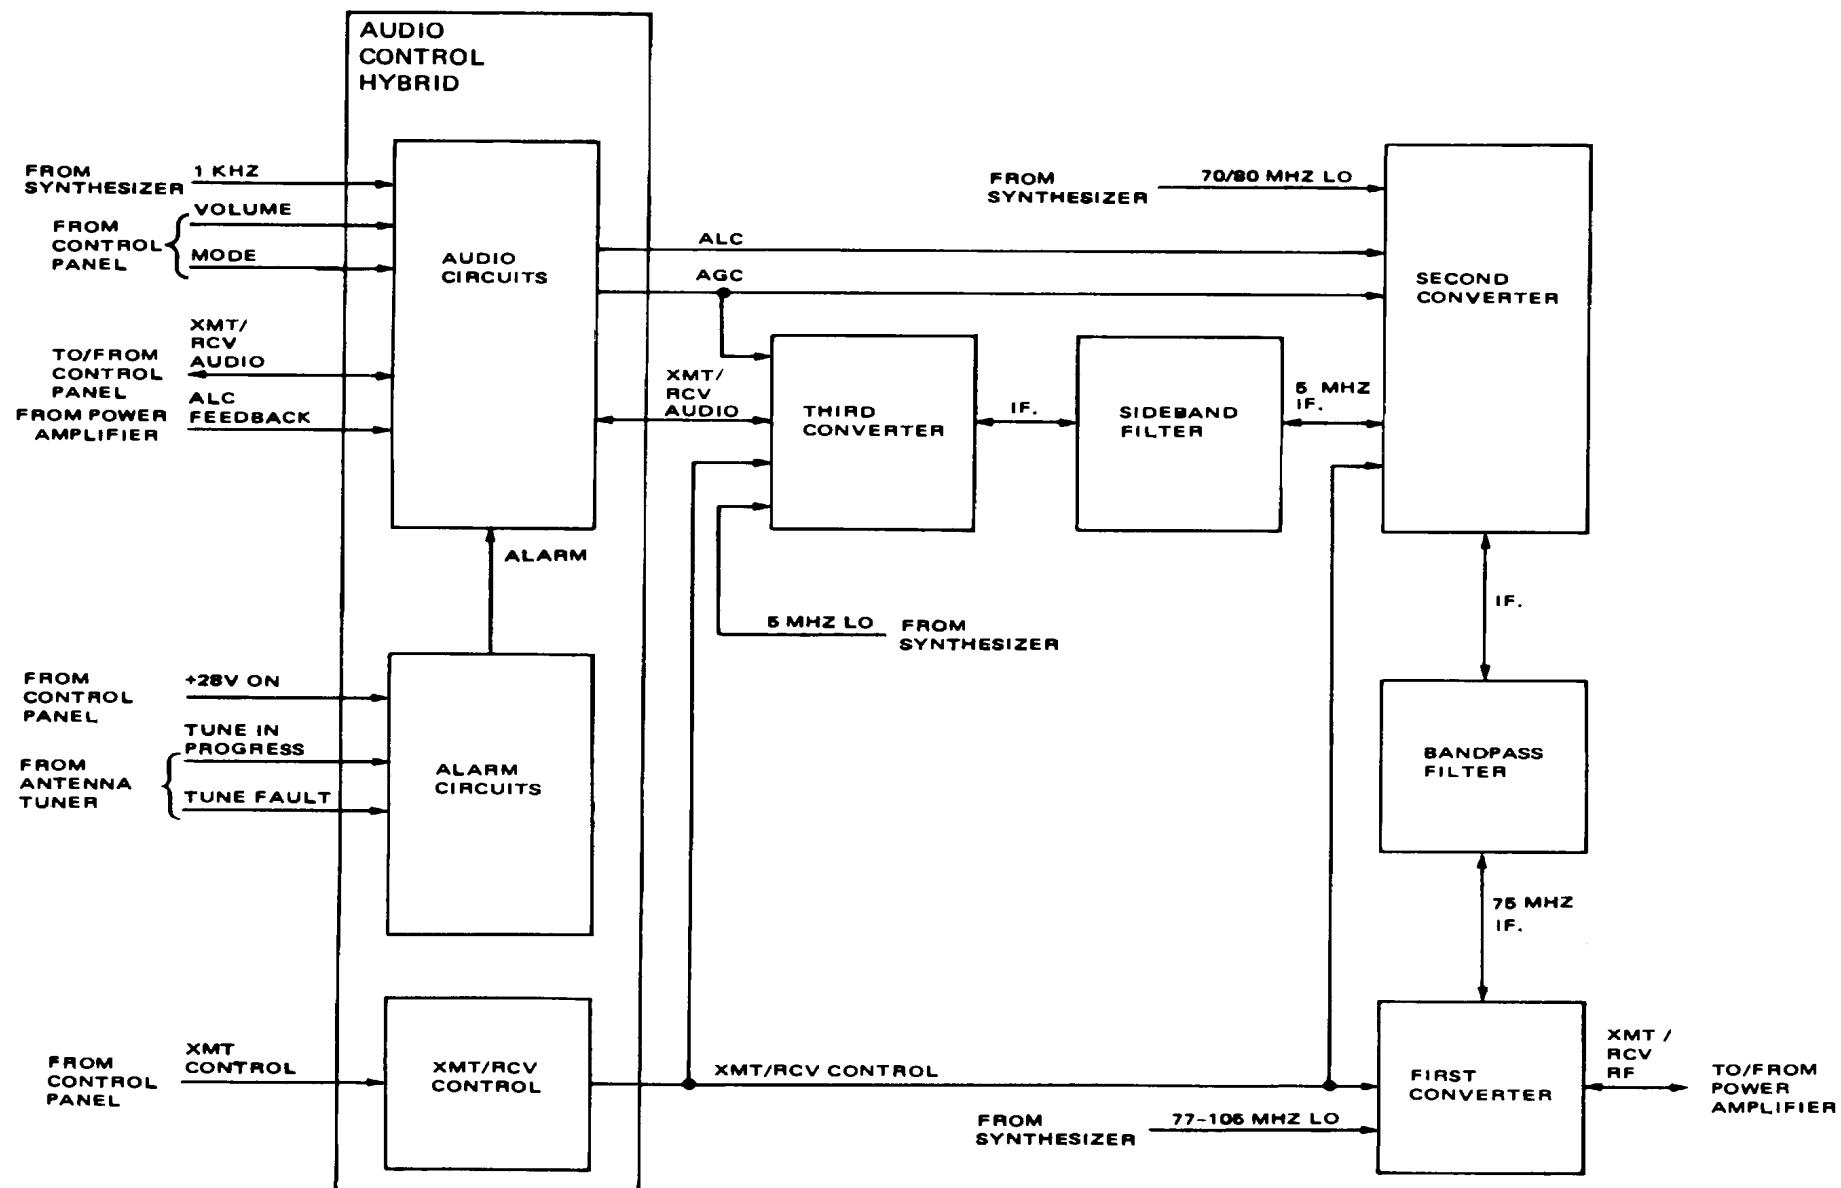

Figure 3-6. Modulator/Demodulator Block Diagram
**3-31. MODULATOR/DEMODULATOR (Figure 3-6)**